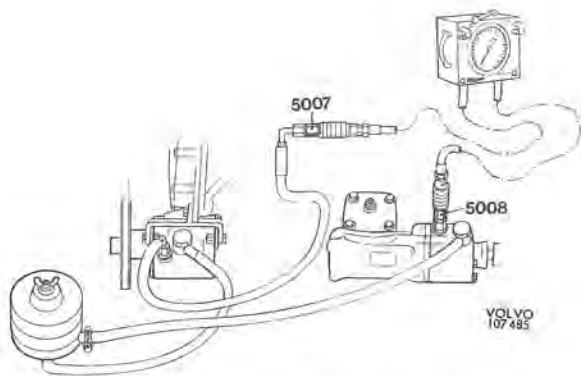

Fig. 6-53. Pressure gauge connected
1. Connect the test instrument 2864 to the delivery line at the steering housing, see Fig. 6-53. The inlet hose of the instrument is connected to the nipple with tool 5007 (Fig. 6-53) and the outlet hose to the steering housing with tool 5008 (right-hand steered vehicle, 2990). Check to make sure that the operating lever of the instrument is in the open position (to the left).